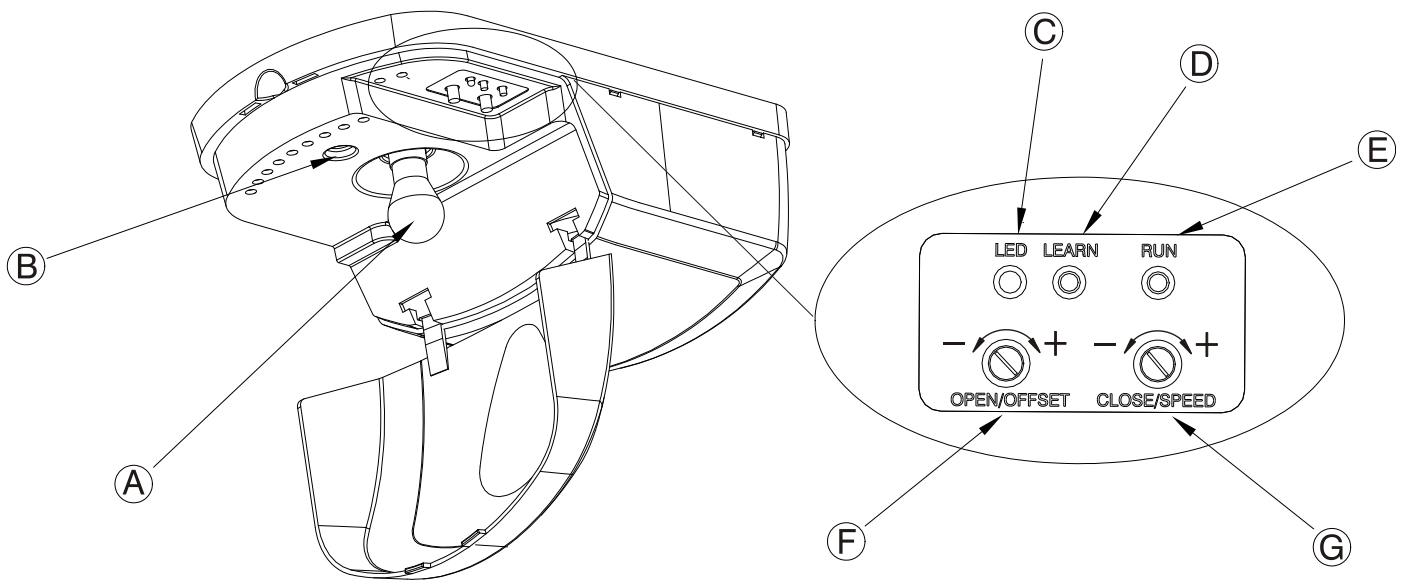

Fig. 18
- If the AGDO stops but does not reverse then turn the (red) Close / Speed Adjustment Pin 5 degrees in an anti-clockwise direction. (Fig.18-F)
- Will glow green when battery charger is charging (Fig.18-C)
- In the event of prolonged power outage the AGDO will automatically shut down (when battery voltage drops below 22 volts) in order to conserve remaining voltage - LED Indicator (Fig.18-C) will extinguish and the AGDO will cease to function.
- iii. remove the lamp bulb (Fig.18–A) by first pushing in and then turning anti clockwise (same as removing household light bulb)
- iv. remove the Control Box Cover Lock Screw point (Fig.18-B) Note: the Control Box Cover can be removed once the head of the screw is protruding by approx 5mm.
- Hinge open the Courtesy Lamp Cover to expose the bulb (Fig.18-A)
- i. hinge open the Courtesy Lamp Cover to expose the “Learn” Button (Fig.18)
- iii. momentarily press the “Learn” Button (Fig.18–D) – LED Indicator will glow solid (Fig.18–C)
- ii. momentarily press the “Learn” Button (Fig.18–D) – LED Indicator (Fig.18–C) will glow solid
- The Learn” Button (Fig.18 - D) is located within the Lamp Cover adjacent to the “Learn LED” and serves to initiate the functions as described in the following table;
- The LED Indicator (Fig.18-C) is located under the Courtesy Lamp Cover and serves to indicate the functions as described in the following tables;
- The black “Run” Button (Fig.18-E) is located under the Lamp Cover and serves to initiate the functions as described in the following table;